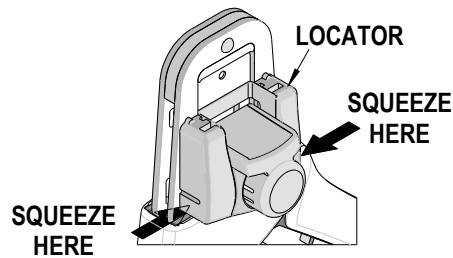

Figure 7A
2. Squeeze gently on the lower area shown in Figure 7A with your thumb and index finger. The lower tabs of the locator should disengage from the hand tool.
4. Lift and pull away from the hand tool. The top locator hooks should slip out of the top slots easily. See Figure 7A.